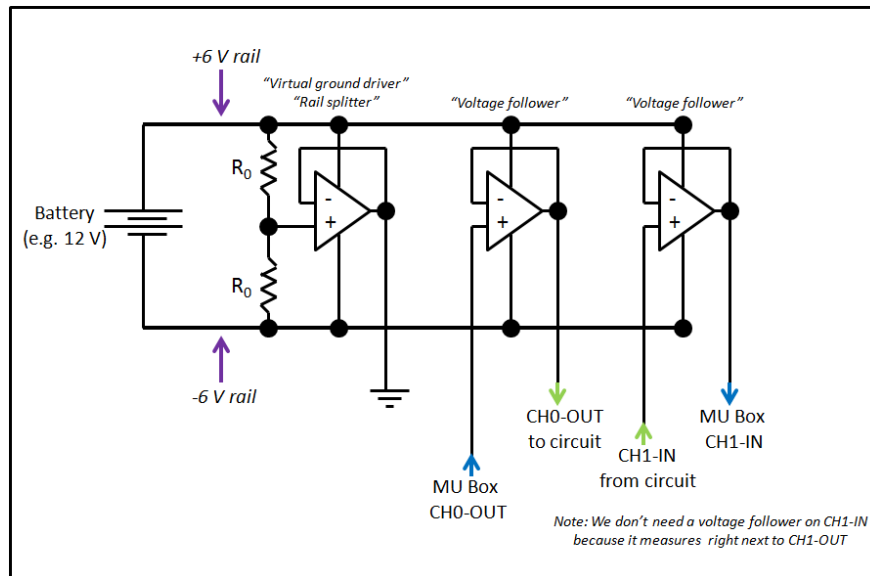

Figure 4: Circuit to power the op-amps. We split the battery voltage to power the op-amps using a voltage divider (e.g. $R_0 = 10 \text{ [k}\Omega\text{]}$).
Your breadboard will have two main interconnected circuits: A circuit to power your op-amps, and a circuit to measure a test impedance. Please study both parts of the circuit (Figs. 4 and 5) before you begin, so you can plan your breadboard accordingly.
1. Op-Amp circuit: Build the Op-amp breadboard that we will use to measure the loudspeaker impedance, as described below and shown in Figure 4. The purpose of the Op-amps is to isolate the measurement from the finite impedance of the MU box. The circuit diagrams of the MU box are provided in the 'DOC' folder of the software package. Based on these circuit diagrams, one may determine the Thévenin source impedance of the output voltage, and the input (load) impedance of the input circuits. There are two critical op-amps, one for output and one for input. The first input does not need an isolation Op-Amp since the output of the the first Op-Amp is zero ohms.
- (b) Drive the circuit from CH0-OUT of the MU-box. *NOTE: If you do not use an Op-amp with a low impedance output (0 [ohms]), as described in Fig. 4, your results will not be as good as they could be.*